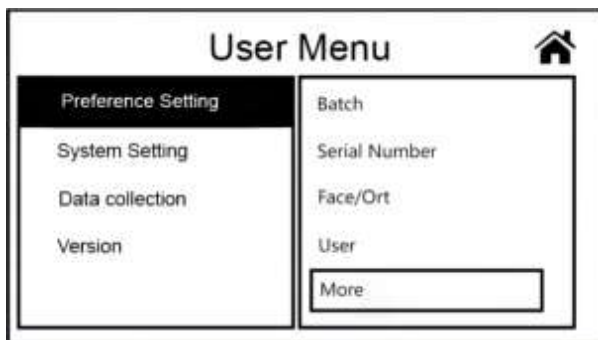
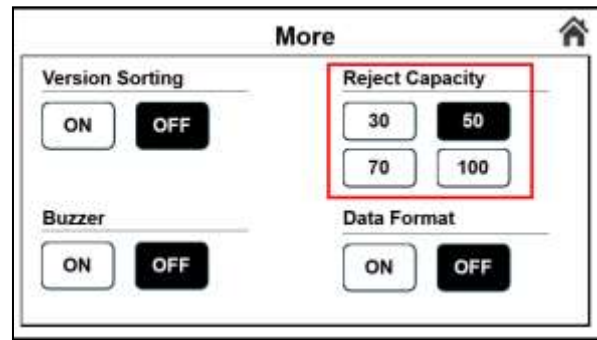

Figure 78
Figure 79
2) Touch the sixth item “More” to enter the interface, as shown in Figure 78. Users can select the reject capacity in this interface. The default is 50, as shown in Figure 79 below. There are four values of reject capacity 30/50/70/100, users can choose according to their needs, after choosing, the bottom color changes from gray to blue, and the machine can save the setting automatically. Touch the “” key on the upper right corner of the screen or press the “” key to return to the previous interface. Note: The reject capacity of 100 is based on the flatness of the banknotes. If the counted banknotes are too wrinkled or soft, please lower the reject capacity value.